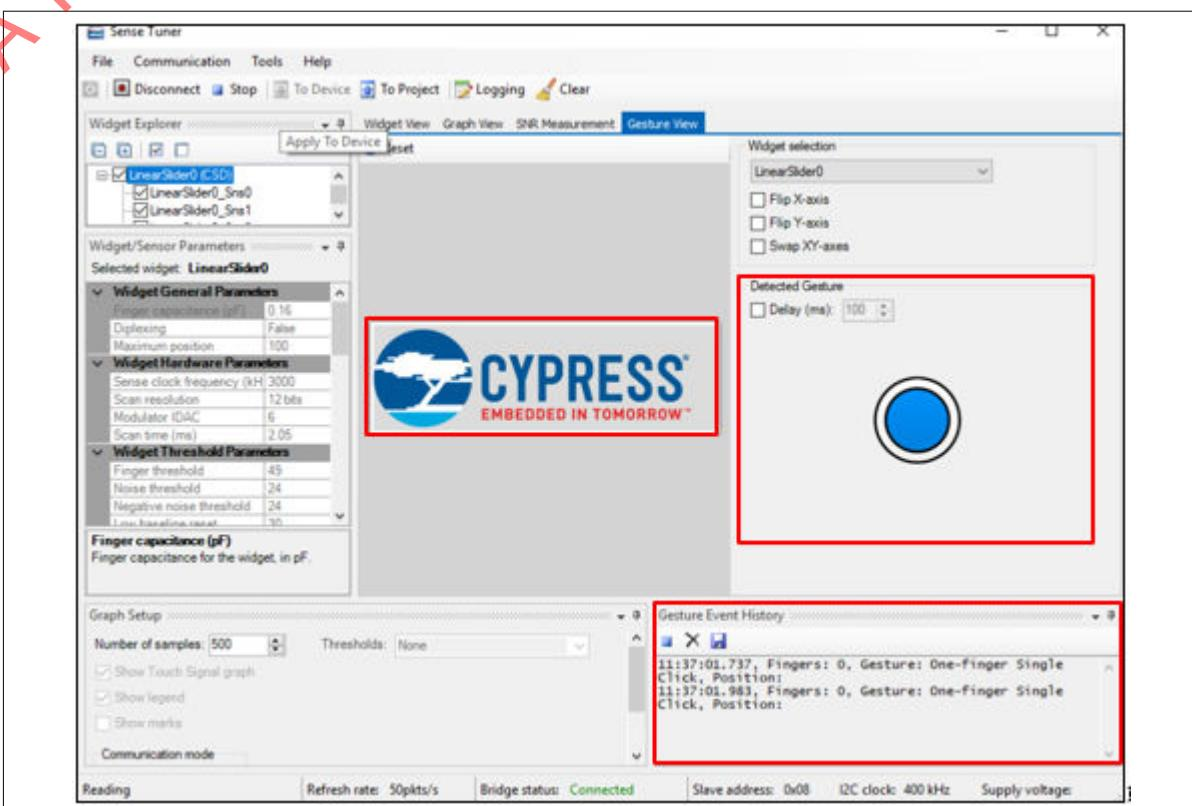

Figure 298 Tuner GUI for gestures
2. As Figure 298 shows, the Gesture View tab is organized into different panes as follows:
Observe the **Cypress®** icon in the Tuner GUI (see Figure 298) to get a feedback on how well the tuning has been done for the scroll gesture in the given hardware. You can also print the variable that must be controlled by scroll through UART to visualize how the value is changing with respect to scroll. This could be used as a visual feedback. The position threshold parameters and the corresponding step counts should be tuned until the variation in the variable value with respect to scroll meet the requirement of the end user application.